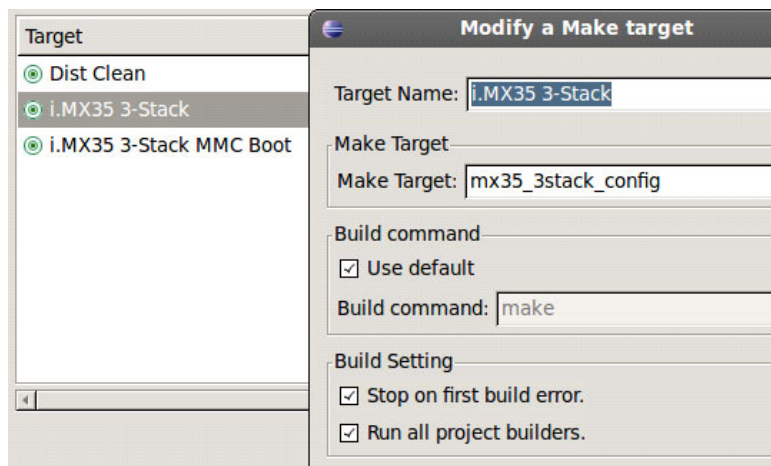

Figure 5. Make Targets in Eclipse Project
- 8. Click Project > Create Make Target to open a new window. For this U-Boot project, create the make targets listed in Table 7 as shown in Figure 5.